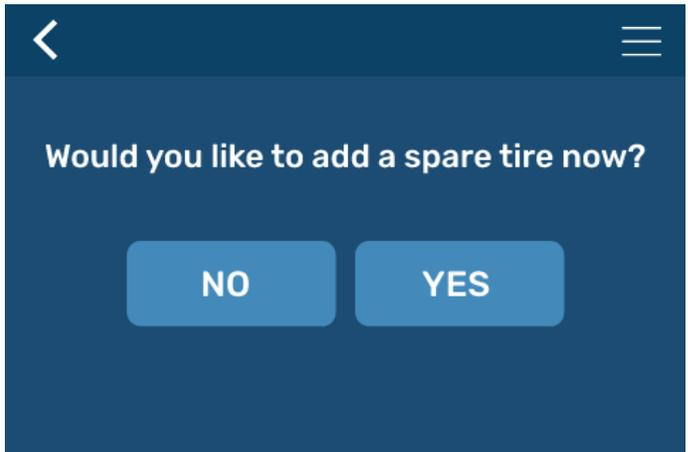

Fig.39
3. Determine if a spare tire will be added. Tapping YES (Fig.39) will add the spare tire icon to the vehicle selected.